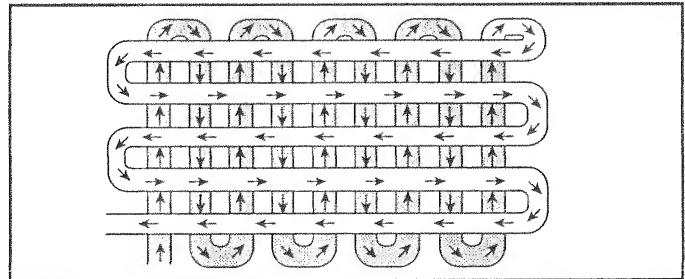

FIG. 9
- You will find tilling much easier if you leave a row untilled between passes. Then go back over the entire area at right angles (See Fig. 9). There are two reasons for doing this. First, wide turns are much easier to negotiate than about-faces. Second, the tiller won't be pulling itself, and you, toward the row next to it.